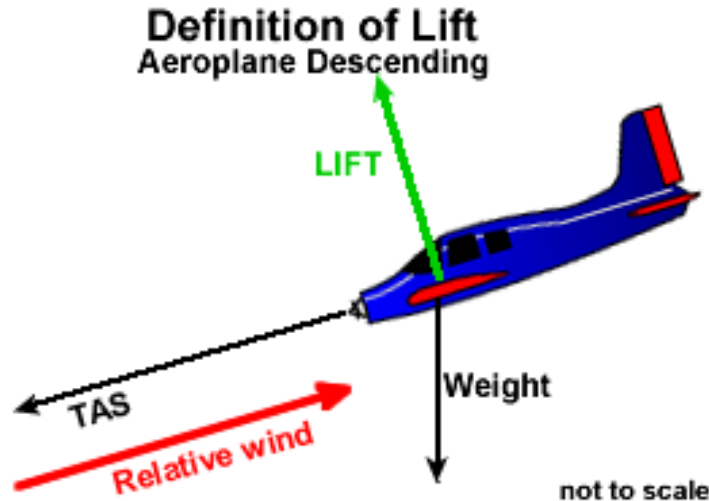

Figure 20
**Lift (L)** is defined as the force perpendicular to the direction of flight, which is the same thing as saying perpendicular to the relative wind. Be certain to fully grasp this definition because lift is NOT necessarily always “the force that opposes weight.” Failure to grasp this is often a source of great confusion. Consider Figure 20, in which an aeroplane is descending. Weight acts down, but lift acts in an inclined direction that is perpendicular to the relative wind. Many pilots get their minds stuck on the idea that lift always acts “up” and consequently have trouble grasping aerodynamics. Try to shake that idea. Lift only opposes weight in straight and level flight.